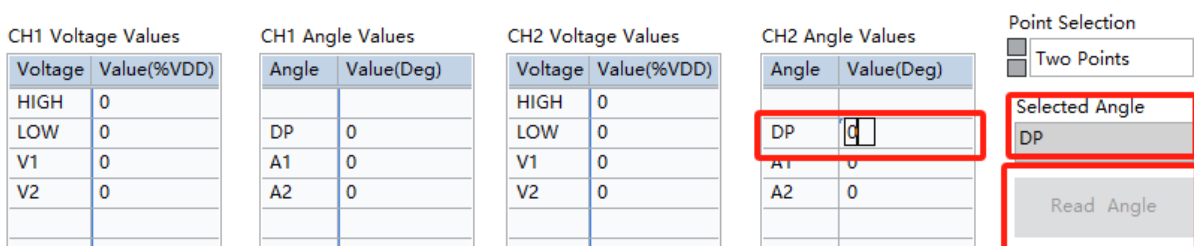

Figure 4.2.13 Read Angle operation
- Clicking on the input box corresponding to "CH1 Angle Value" will display the current "Selected Angle Name" on the right side. In Figure 4.2.13, when the cursor is in the "DP" point box corresponding to "CH1 Angle Value," the right side will show that the currently selected angle is "DP." Clicking the "Read as Selected Angle" button at this point will prompt the programmer to read back the current angle value of the chip, add the corresponding "DP offset" value, and fill it into the "DP" box for CH1 Angle Value. Similarly, you can perform angle reading operations for "A1," "A2," and so on. Note: Only when the active cursor is within the options corresponding to "CH1 Angle Value" will this option be selected and updated in the "Selected Angle Name" box on the right. When the active cursor is in "CH2 Angle Value," it will not change the content in the "Selected Angle Name" box. Also, when the selected angle name is "DP Angle Value," the content displayed in the input box is the current angle value of the chip plus the offset set in the interface (if greater than 360°, subtract 360°). When the selected angle name is any other multi-point programming angle, the displayed angle value in the input box is the current angle value of the chip.